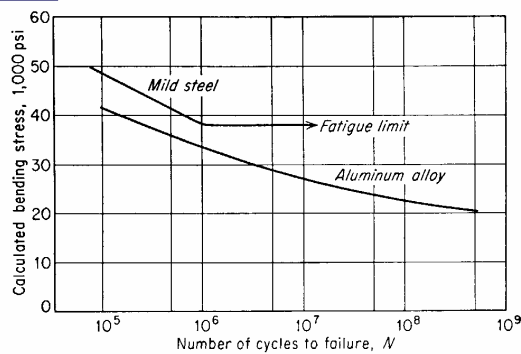

Figure 12-3 Typical fatigue curves for ferrous and nonferrous metals.
FIGURE 12.3 Fatigue fracture markings. (a) Rotating steel shaft. Center of curvature of earlier "beach markings" locate crack origin at corner of keyway.² (By permission from D. J. Wulpi, *How Components Fail*, copyright American Society for Metals, 1966.) (b) Clam shell markings (C) and ratchet lines (R) in aluminum. Arrows indicate crack propagation direction (Photo courtesy of R. Jaccard). (c) Fatigue bands in high-impact polystyrene toilet seat. (d) Beach markings in South Carolina.